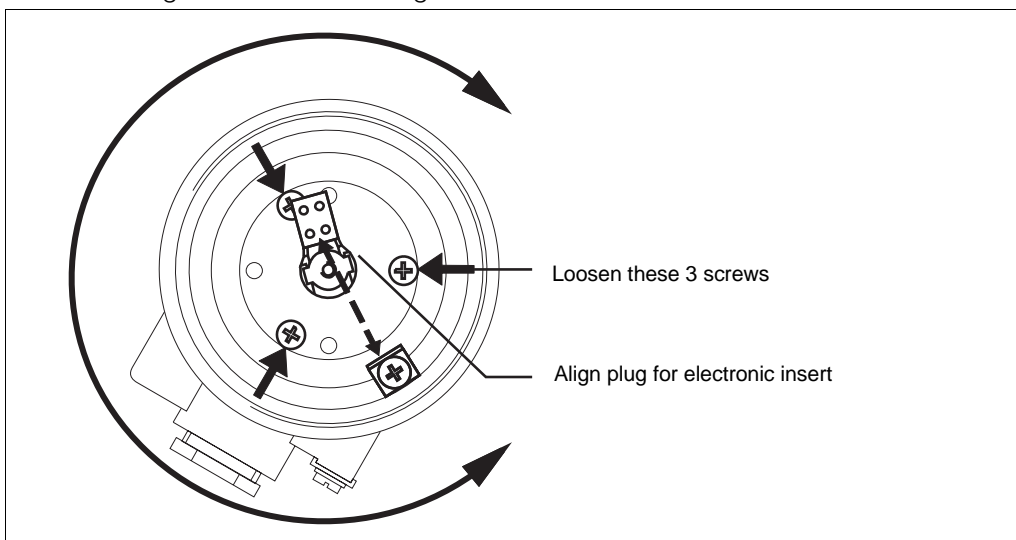

Fig. 15
- Slightly loosen the 3 screws in the housing, see Fig. 15.